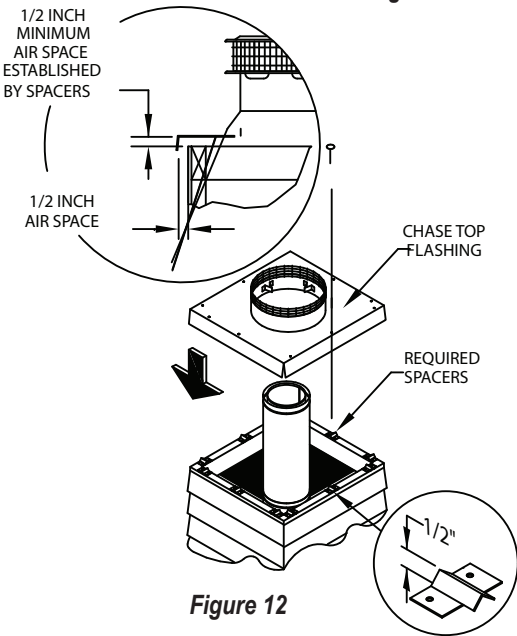
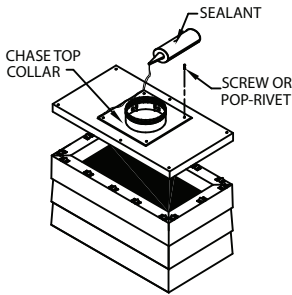
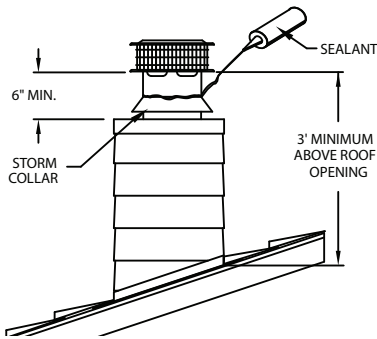
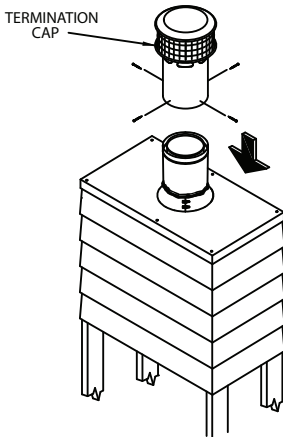

Figure 12
Figure 14
Figure 15
Figure 16
12. Attach Flashing: For chase enclosures, use a Chase Top Flashing. The Chase Top Flashing allows for a 1 1/2-inch clearance maintained from the chimney and provides required ventilation air. Install the Chase Top Flashing at the top of the chase with a 1/2-inch minimum air clearance off the top of the chase construction (Fig. 12, 13). Use spacing clips provided to establish 1/2-inch air clearance. If the Chase Top Flashing does not fit the dimensions of the chase, use a Chase Top Collar Section and extend the base of the flashing as needed for the chase dimensions.
Ensure the minimum ½-inch spacing and perimeter ventilation requirements are met as show in **Figure 12**. Secure the Chase Top Collar Section to the field-fabricated chase top with sheet metal screws or rivets (**Fig. 14**). Seal Chase Top Collar Section to chase top with non-hardening waterproof sealant to ensure a weather tight connection. Additional screening as needed for field-fabricated chase covers is allowed. Additional ½-inch minimum spacers can be field-fabricated as needed out of 24 GA sheet metal or other suitable non-combustible material. Additional non-combustible structural supports can be field-fabricated to help support the chase top flashing if needed, provided the air ventilation requirements are maintained. Secure the Chase Top Flashing to the chase with at least three (3) screws or nails per side. When installed, the bottom of the Chimney Cap must be at least 6 inches above the Chase Top Flashing (**Fig. 15**).
13. Finish Top: Apply a non-hardening waterproof sealant around the chimney at the point where the Storm Collar will meet the chimney just above the Flashing (**Fig. 15**). Slide the Storm Collar down over the chimney to the top of the Flashing. The Storm Collar must be installed 1-inch off the Chase Top Flashing to provide proper ventilation (**Fig. 15**). Tighten the bolts of the Storm Collar and seal the Storm Collar against the Chimney with sealant. Be sure Chimney and Offsets are properly supported. Attach the Chimney Cap onto the top of the chimney by setting the female end of the Cap onto the male end of the last Chimney Section. Secure the Cap by using four (4) sheet metal screws provided (**Fig. 16**). Do not push down from the top portion of the cap as this may damage the cap. Push from the lower section of the Cap if needed. The Chimney Cap can be removed for chimney cleaning as described in the Chimney Maintenance section of the instructions.